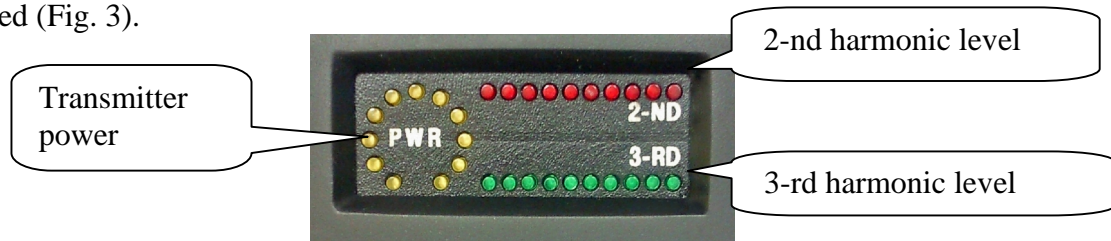

Fig. 3 LED Indicators
- Indication of the receiver power level and levels of the 2nd and 3rd harmonics of the signals received (Fig. 3).